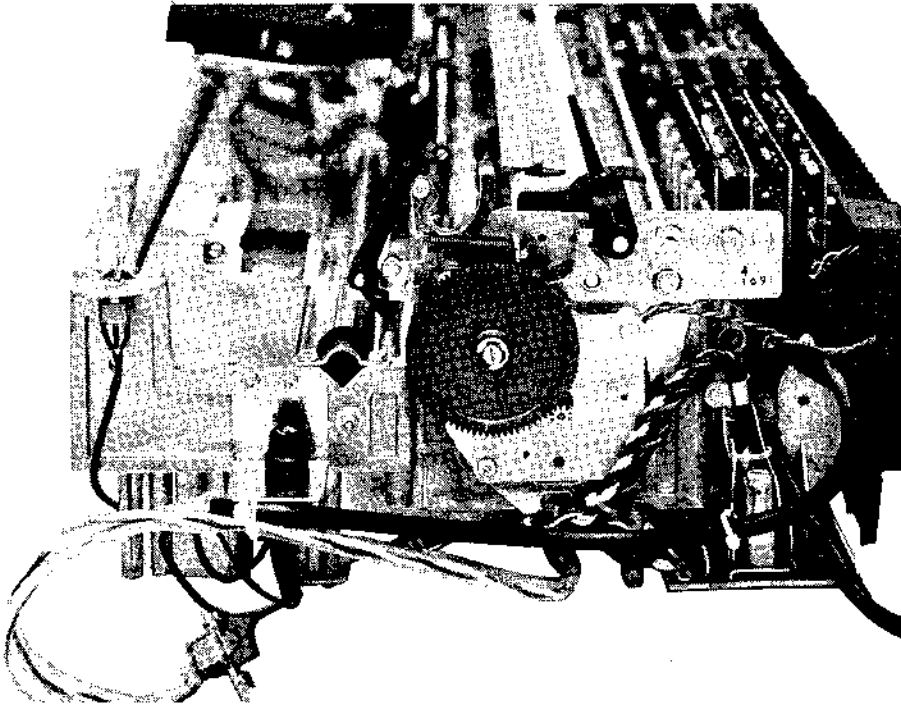

Figure 5-60 AC AND DC CABLE INSTALLATION
10. At the left-hand end of the printer, arrange the extended dc power cable toward the rear up and over the adapter cable bracket and connect its plug to the power connector on the end of the Motherboard, as shown in Figure 5-60.
11. If the ac power cable harness assembly, Diablo No. 23899, is being installed, refer to Figure 5-60. Mount the fuse holder bracket on the left front side of the printers main frame using 8-32 x .375" thread forming screws.
13. Refer again to Figure 5-60. Arrange the ac power cord back along the right side of the printer frame as shown, and secure with a plastic cable clamp, "D" washer, and an 8-32 x .500" thread forming screw.